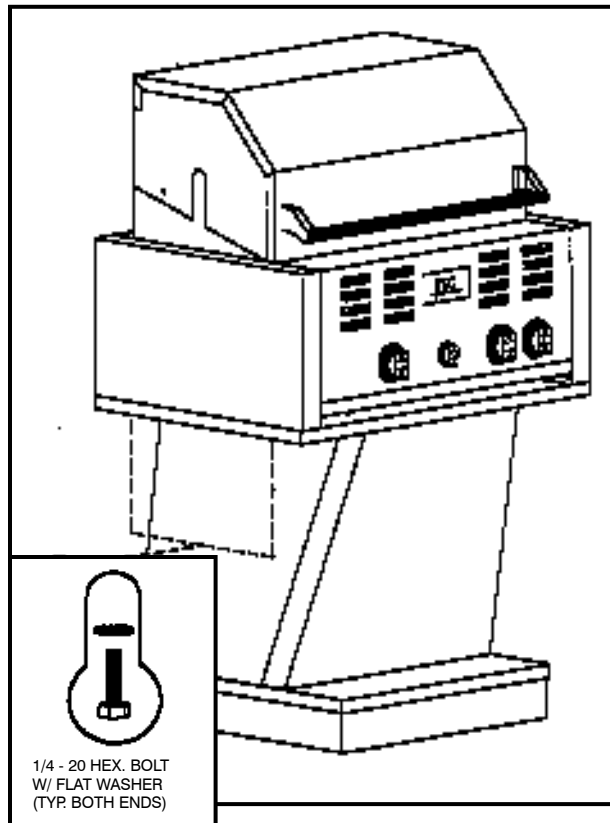

Figure 3. Pedestal Base
3. Fasten the Housing to the Base with the supplied hardware. (Hardware needed: Four (4) each $1/4 - 20 \times 1/2$ " L hex head bolts and flat washers.) (See Figure 3.)